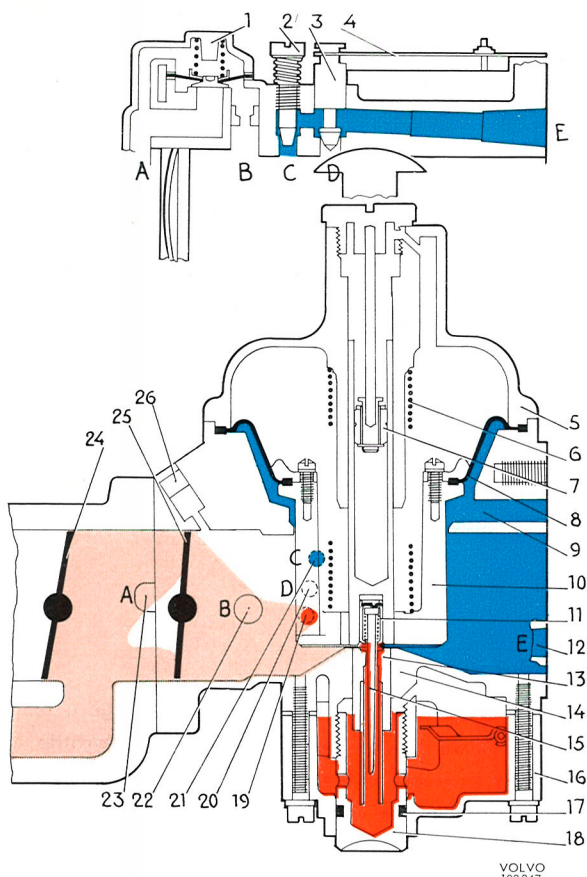
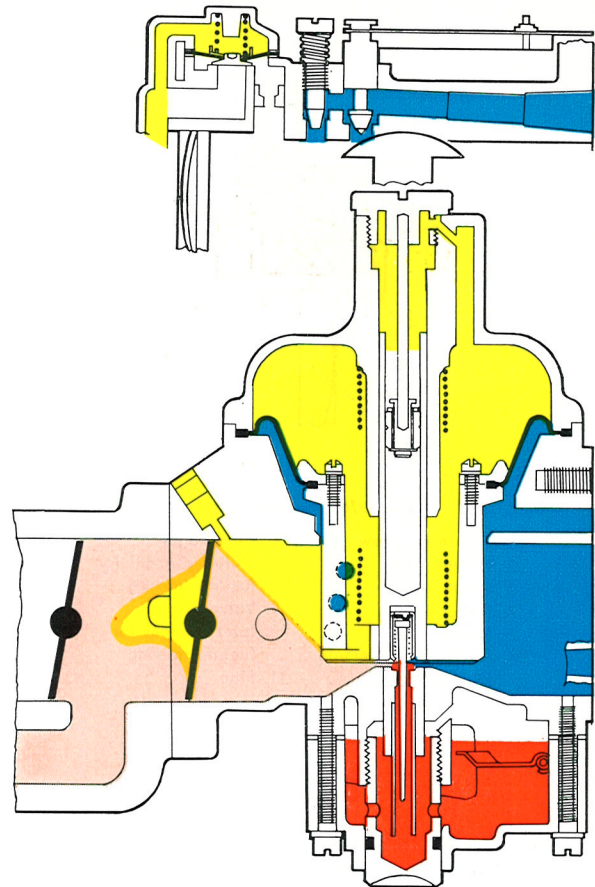

Fig. 2-71. Cold starting, principle
Fig. 2-72. Idling, warm engine
When the engine is idling, the vacuum in the carburettor suction chamber is low and the column between the air valve and the bridge will be small (see Fig. 2-72). At this stage, the thicker section of the metering needle is in the jet and thus only a small quantity of fuel, corresponding to idling requirements, is sucked into the engine. The temperature compensator (Fig. 2-71) is regulated by a bi-metal spring (4) which influences a valve (3). When the engine is warm and the temperature in the carburettor rises, the valve opens and air is supplied to the carburettor venturi to compensate for the increase in the fuel flow, which is obtained due to the alteration in the fuel's viscosity, see Fig. 2-72. Fine adjustment of the engine idling speed can be carried out with the idle trimming screw (2, Fig. 2-71).
engine intake manifold. Due to the pressure difference between the underside of the air valve, where there is pressure in the carburettor inlet port, and the upper side of the valve, where there is vacuum, the valve lifts from the bridge. This also lifts the tapered metering needle (15, Fig. 2-71), which is attached to the valve, out of the jet. The effective choke area widens and increases the fuel flow. See Fig. 2-73.
To provide at any point in the throttle range a temporary richer mixture at the moment the throttle is suddenly opened, acceleration, a hydraulic damper is incorporated in the valve rod. The hydraulic damper consists of a plunger mounted on a rod. The plunger operates in oil. When the throttle is suddenly opened, the vacuum in the suction chamber increases rapidly. When the air valve (10, Fig. 2-71) lifts, the damper plunger (7) is forced against its seat and oil is prevented from flowing past the lower side of the damper plunger from the upper side, and this retards the movement of the valve (10). A more powerful vacuum is temporarily obtained above the jet so that the fuel-air mixture becomes for the moment richer. The downward stroke of the air valve is assisted by the spring (6). The rod in the valve should be filled to approximately within a 1/4" from the upper edge with oil which is approved as "Oil for Automatic Transmissions, Type A".